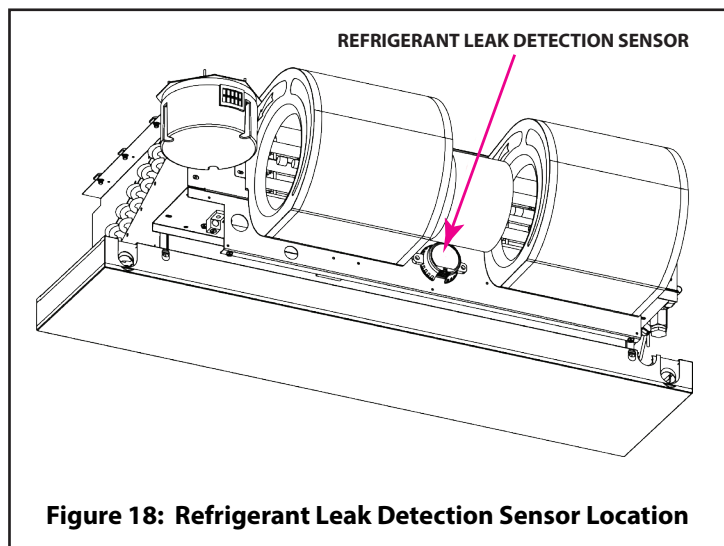

Figure 18: Refrigerant Leak Detection Sensor Location
2. Locate the black refrigerant sensor located below the blower motor (See Figure 18).